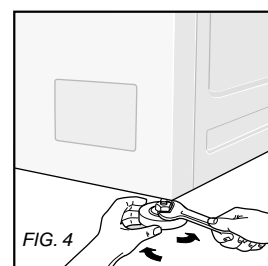

FIG. 4
6. To level the machine, adjust the feet by screwing or unscrewing as needed. Once the machine is level, tighten the locknuts (Fig. 4).